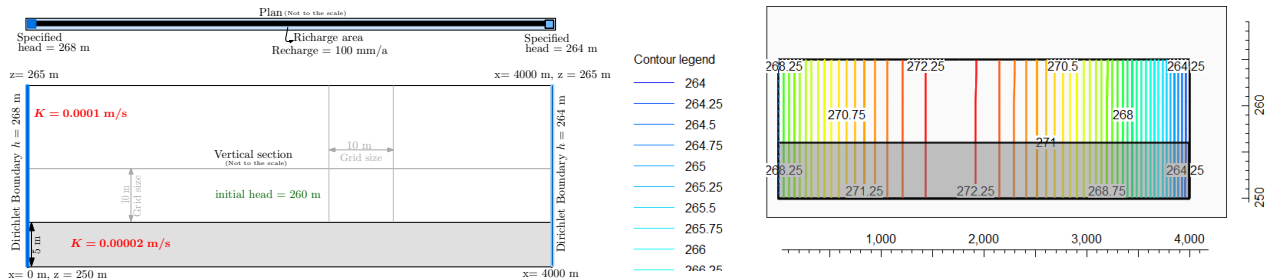
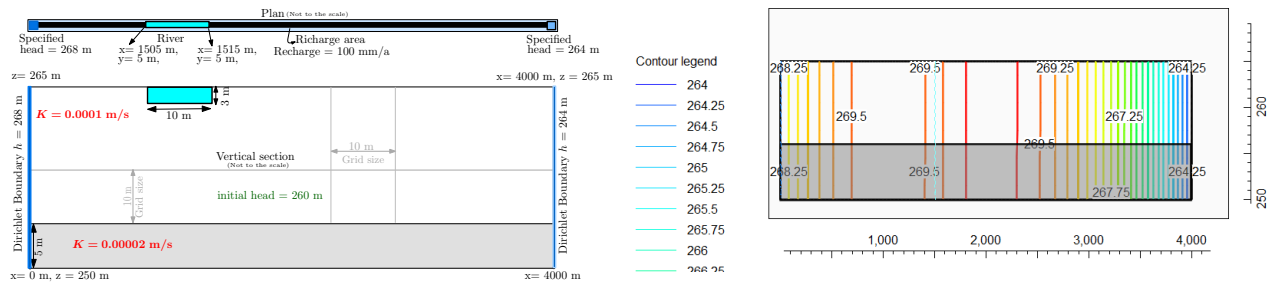

Figure 3: Left: The model domain and, Right: Obtained hydraulic head isolines for the front view
Figure 4: Left: The model domain with a river, and Right: Obtained hydraulic head isolines for the front view displaying the influence of river on the head
- check hydraulic head isolines - the resulting plot should appear as in Figure 3
- The distribution of isolines in the Figure 3 suggest that recharge of the domain distorts the uniformity of isolines (observed in Figure 2) towards the lower head (right) boundary
- ☐ check hydraulic head isolines - the resulting plot should appear as in Figure 4
- ☐ River provides additional source of water to the model and its impact is very distinct by comparing Figure 3 and Figure 4
- The pumping well forces flow towards itself. In fact, water is also pulled from the outflow (right) boundary. Comparing Figure 3 and Figure 4 basically displays that. The path-plot should more clearly demonstrate these.